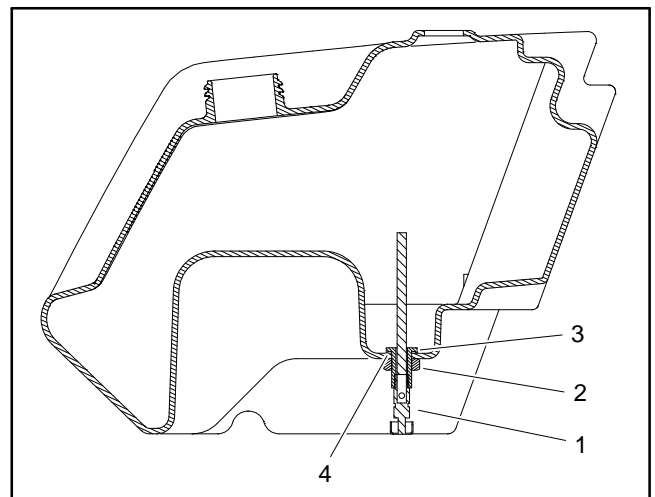

Figure 7
3. Remove vent hose (item 10) from fuel vent valve (item 6).
5. Remove four (4) cap screws (item 14), flat washers (item 13) and flange bushings (item 12) that secure the fuel tank to the tank mount plate (item 2).
6. Move fuel tank towards the rear of the machine to gain access to fuel return hose (item 15). Remove return hose from elbow fitting on front of tank.
9. If necessary, remove shut-off valve and fitting assembly from fuel tank (Fig. 7). The nut and fitting have left hand threads.
1. Install fitting assembly and shut-off valve into fuel tank if they were removed from tank (Fig. 7). The nut and fitting have left hand threads.
3. Move fuel tank towards the rear of the machine and install return hose (item 15) to elbow fitting on front of tank. Secure hose with hose clamp.
- A. Apply antiseize lubricant to the threads of the four (4) cap screws (item 14).
- B. Secure fuel tank to the tank mount plate with four (4) cap screws (item 14), flat washers (item 13) and flange bushings (item 12).
6. Connect fuel supply hose (item 17) to the fuel shut-off valve and fuel filter. Secure supply hose with hose clamps.
7. Connect vent hose (item 10) to fuel vent valve (item 6) and secure with hose clamp.